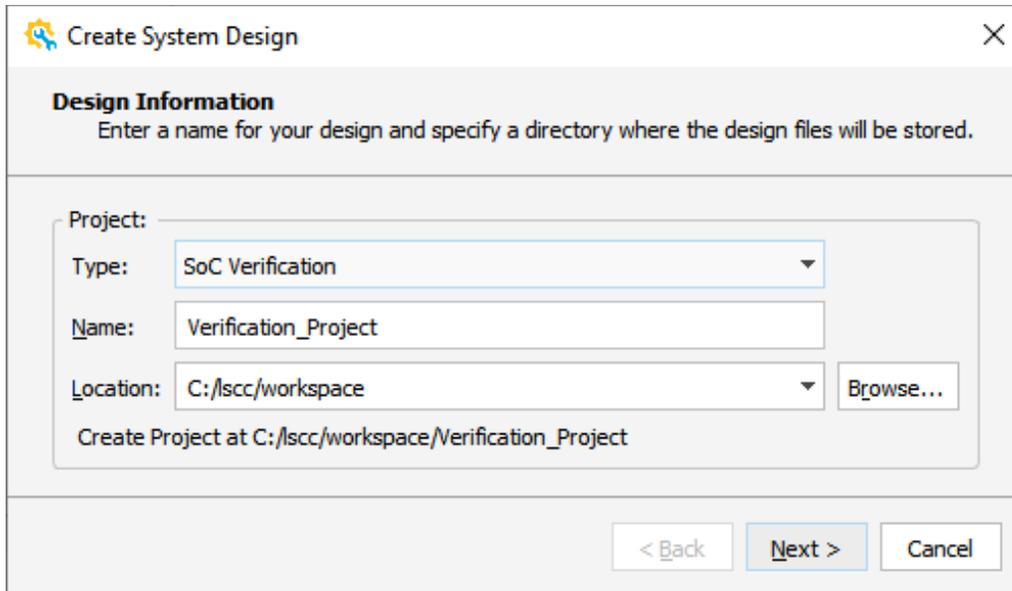

Figure 2.90. Create System Design – Design Information Wizard
1. Choose **File** >  **New Design** from Lattice Propel Builder Menu Bar. The Create System Design wizard opens (Figure 2.90).